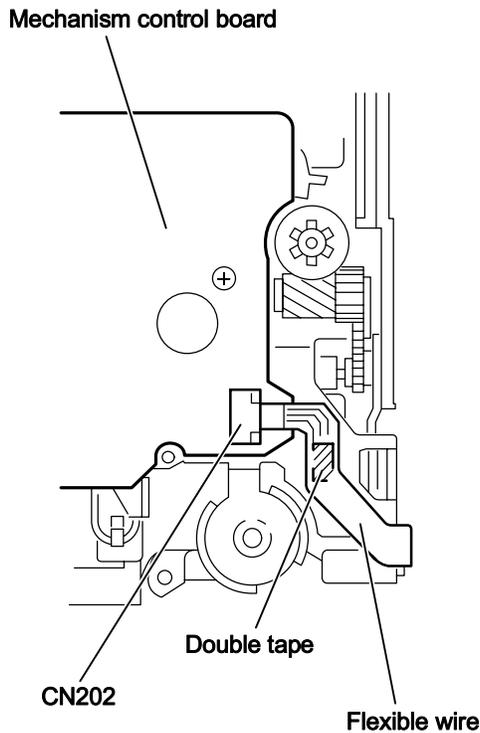

Fig.10
### 3.2.6 Removing the front unit (See Fig.10 to 12)
- (1) Disconnect the flexible wire from connector **CN202** on the mechanism control board at the bottom of the body. (See Fig.10.)
When reassembling, attach the flexible wire extending from the switch board using the double tape. (See Figs. 10 and 12.)